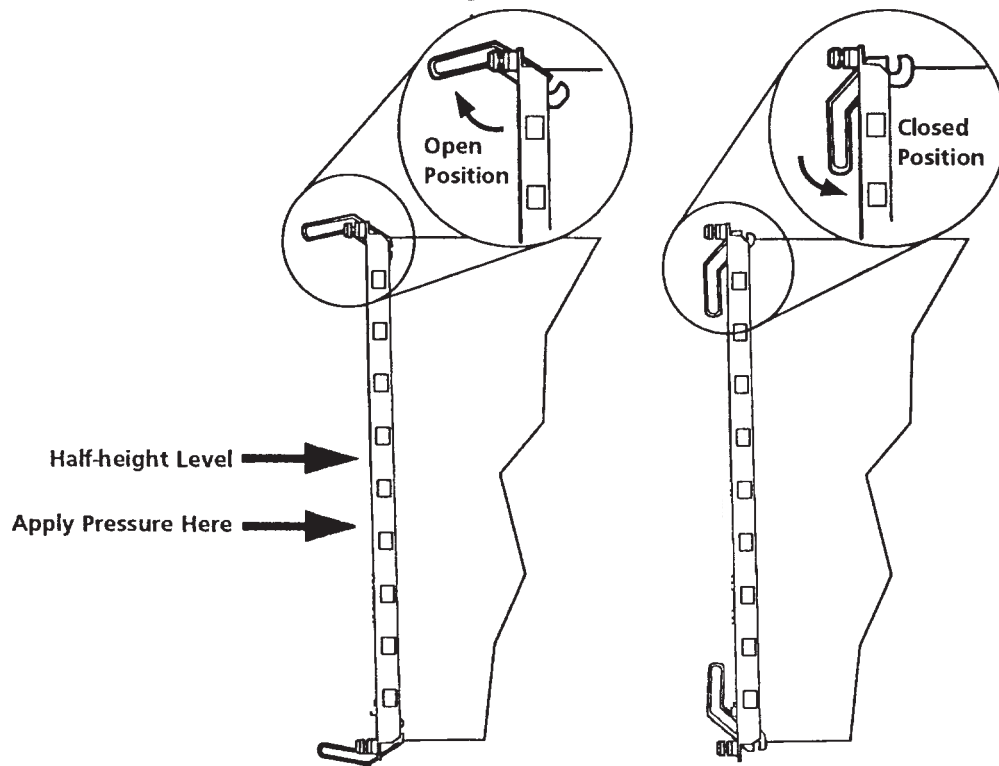

Figure 5. 8285 Module Ejectors
3. Make sure that the two module ejectors (left and right) are OPEN (see Figure 5 on page 11.)